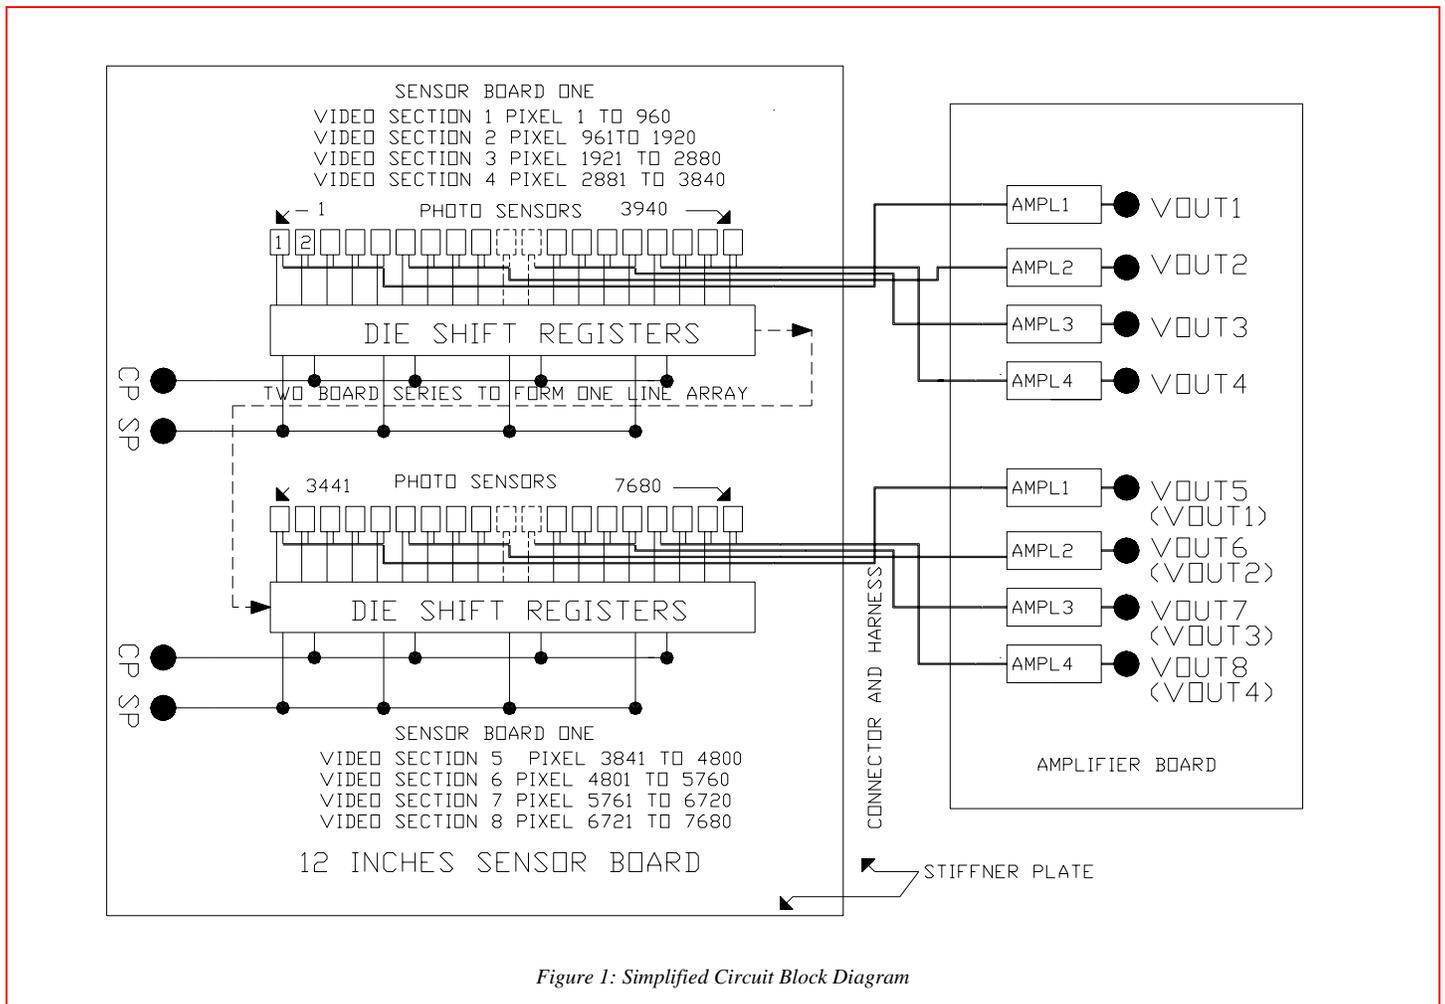
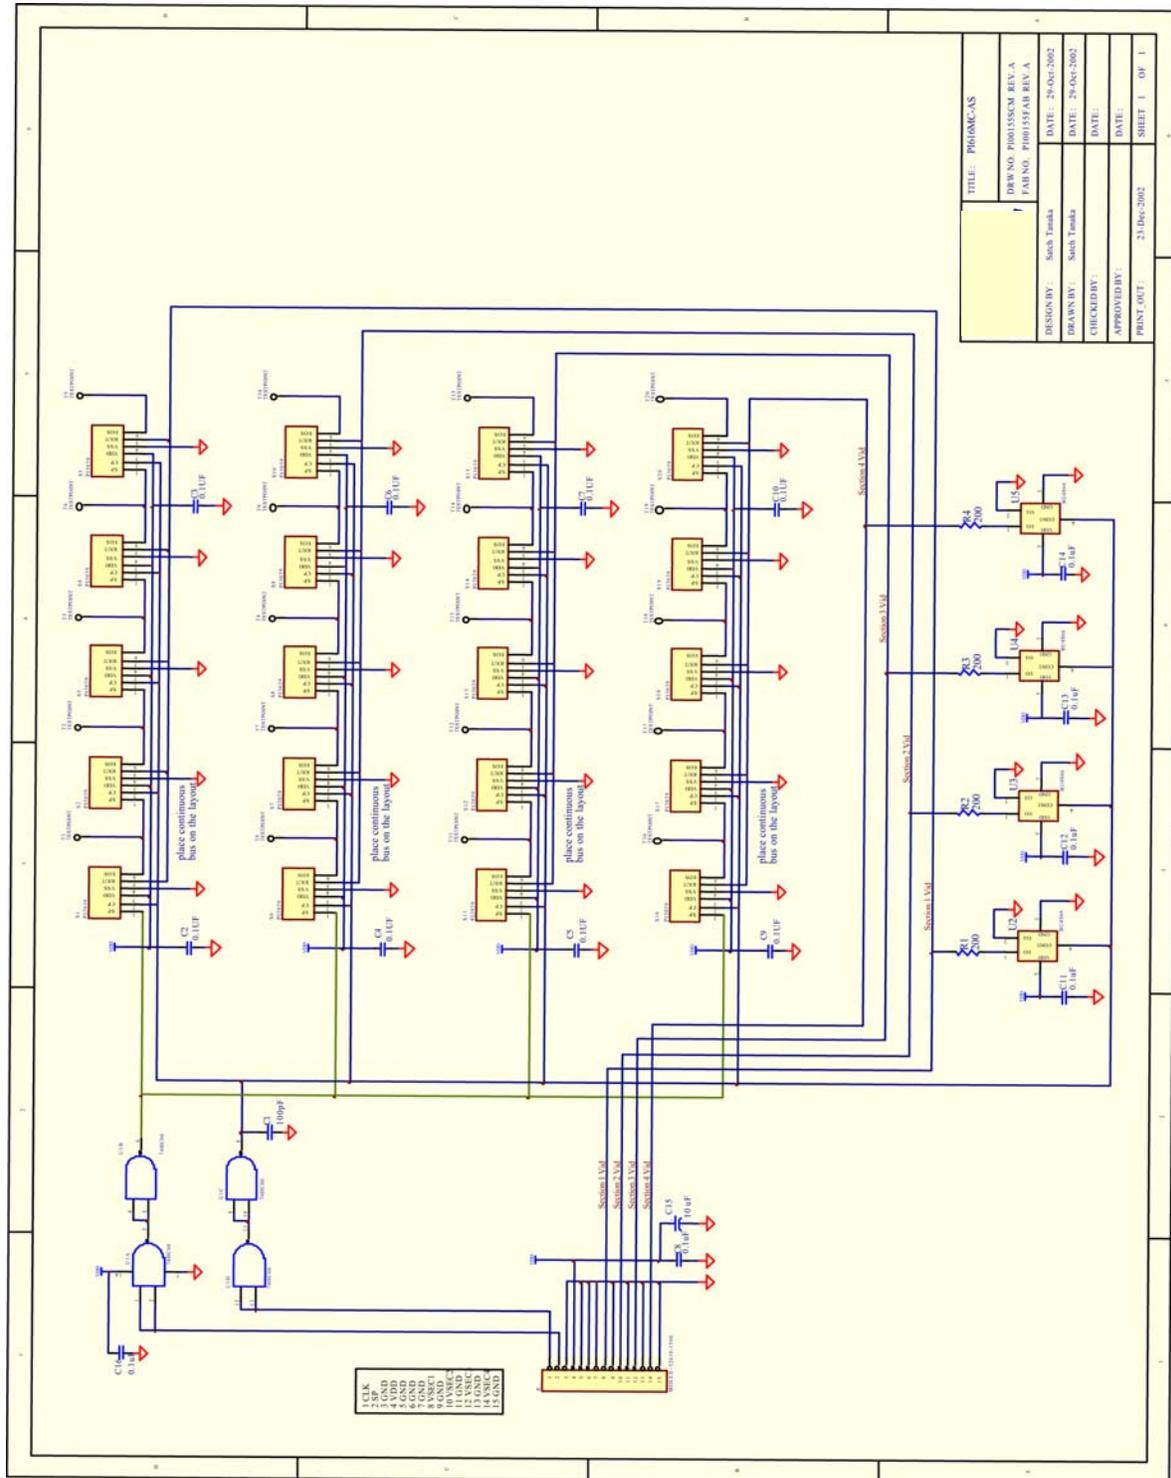
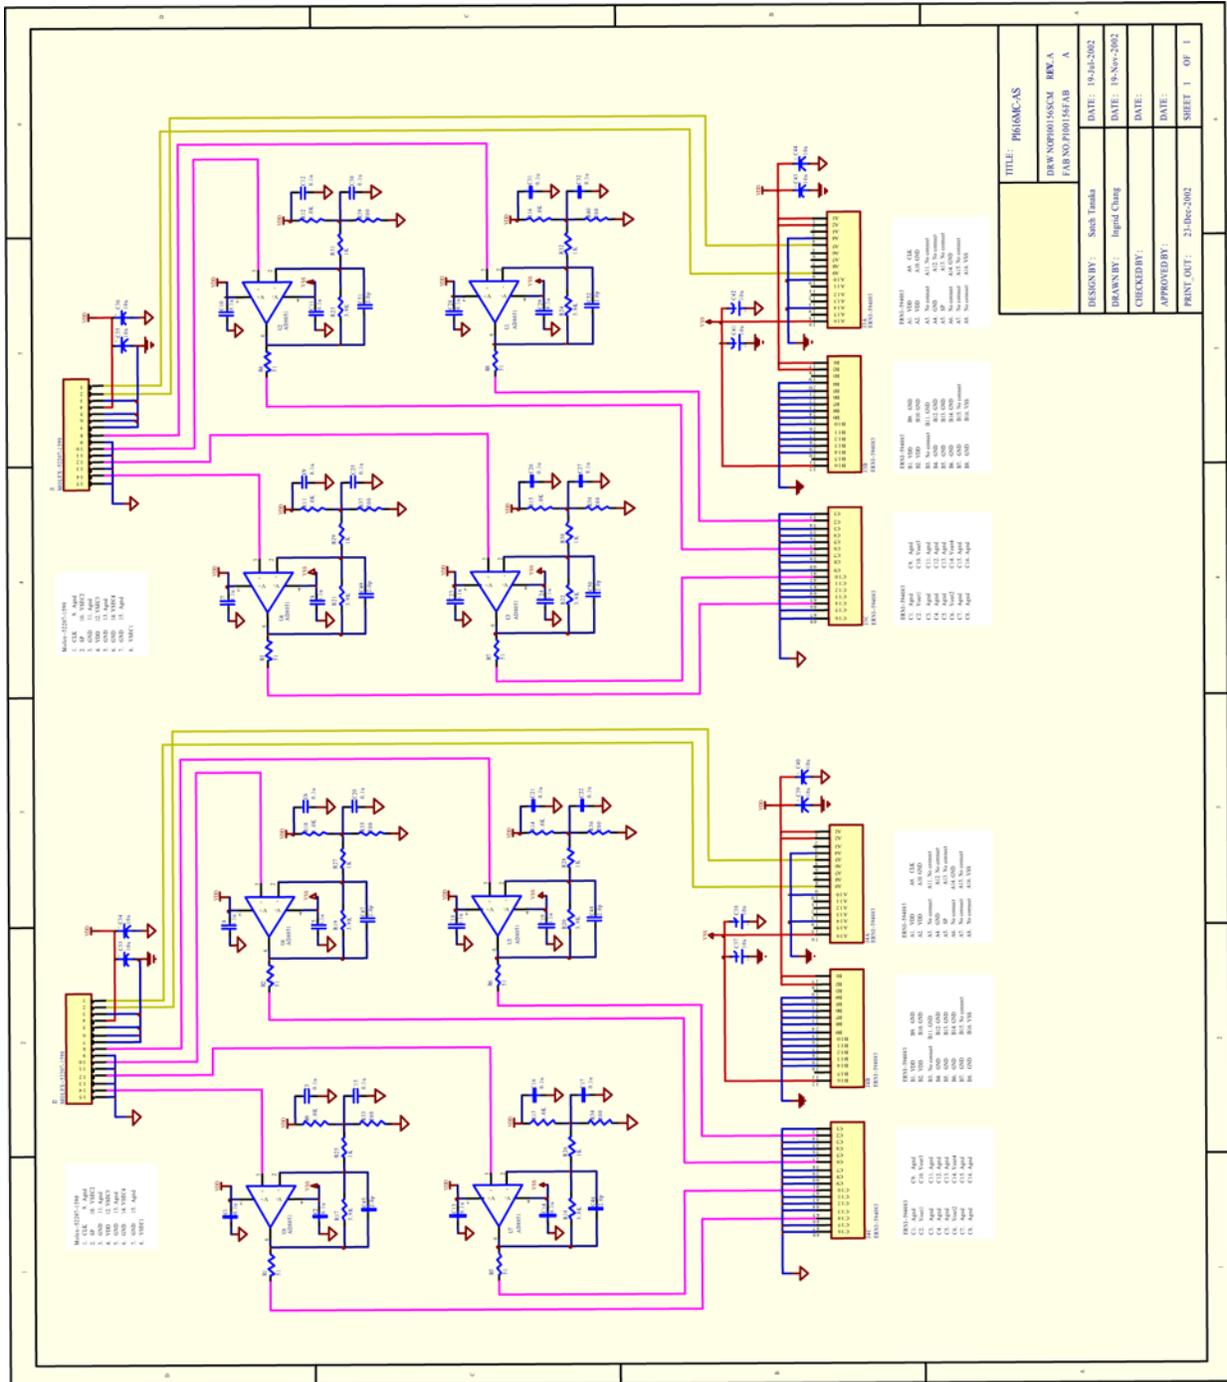

Figure 1: Simplified Circuit Block Diagram
Figure 4: CKT 1 - Sensor Board Schematic
Figure 5: CKT 2 - Amplifier Board Schematic
10.0 Block Diagrams - Figures 1, 2 and 3
Two reference schematic diagrams are attached to this document (Figure 4 and Figure 5). Only one schematic, CKT 1, Schematic (Figure 1), is required to represent both the Sensor Board 1 and 2 because the circuits are identical. The second one is for the amplifier board and it contains all eight of the amplifiers on one schematic. The circuit description of its structure and operation has been briefly discussed in Section 1 of this document. Its operation follows from the discussion of the simplified block diagram. There are only two input control clocks for the circuits, CP and SP. SP starts the shift register scanning while CP clocks the register and produces the video pixels at its same rate. The clocks are entered through the I/O connectors on both sensor boards. They are both externally buffered with the 74HC00 hexes and applied to the inputs of the image sensors. On each of the two-image array sensor boards there are four sequential video sections. Each video section contains a row of five sequential image array sensors, AMIS-720639. These are all clocks in parallel with CP. The four sections on both boards are clocked with SP in parallel, to initiate all eight video sections and simultaneously begin the eight sequential readouts. All eight lines, four in each sensor board, have reset switches, BU4S66, which parallel resets the video pixel charges after they are readout. These pixels, read out in parallel, are applied to their respective output amplifiers on the amplifier board.
The second schematic, CKT 2, Amplifier Board Schematic (Figure 5), is the amplifier board. There are eight amplifiers for processing the output videos from both sensor boards. The amplifier board receives the inputs from the sensor board output connector, J1, through two harnesses. They are connected into the input I/O connectors, J1 and J2, of the amplifier board. Since there are two sensor boards using the same schematic representation, the connector on Sensor Board 1, J1, becomes J2 for the second board. They are physically differentiated and marked as J1 and J2 on the stiffener board. Since all eight sections process their video signals through identical amplifiers, only one amplifier circuit is discussed. The AD8051 is an operational amplifier, which is configured into a non-inverting buffer amplifier with a gain of $\cong 4.5$. It is used to isolate the video line from its external circuits. The isolated video line then serves as a storage capacitance for the pixels outputs. The pixel charges are read out onto the video line capacitance and integrated. This integrated pixel charge, converted to a voltage pulse, is amplified and produced at the output I/O. The reset switch on the video line, which is located on the sensor board schematic, resets the pixel signal charge prior to the readout of following pixel.